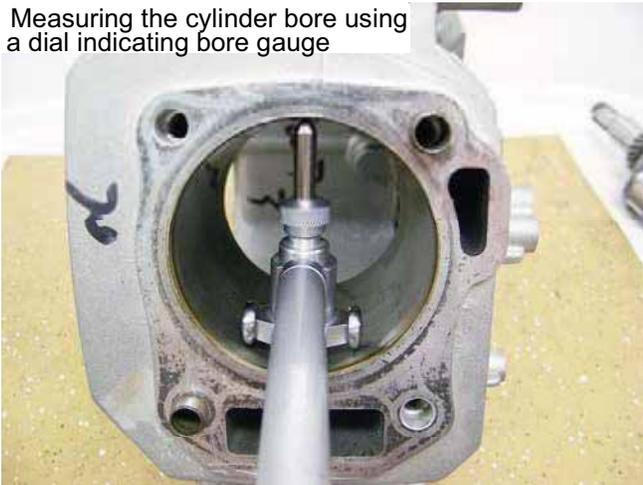

Figure 10.15
**NOTE:** The measurements can be made using telescoping gauges, inside micrometers or dial indicating bore gauge. See Figure 10.15.